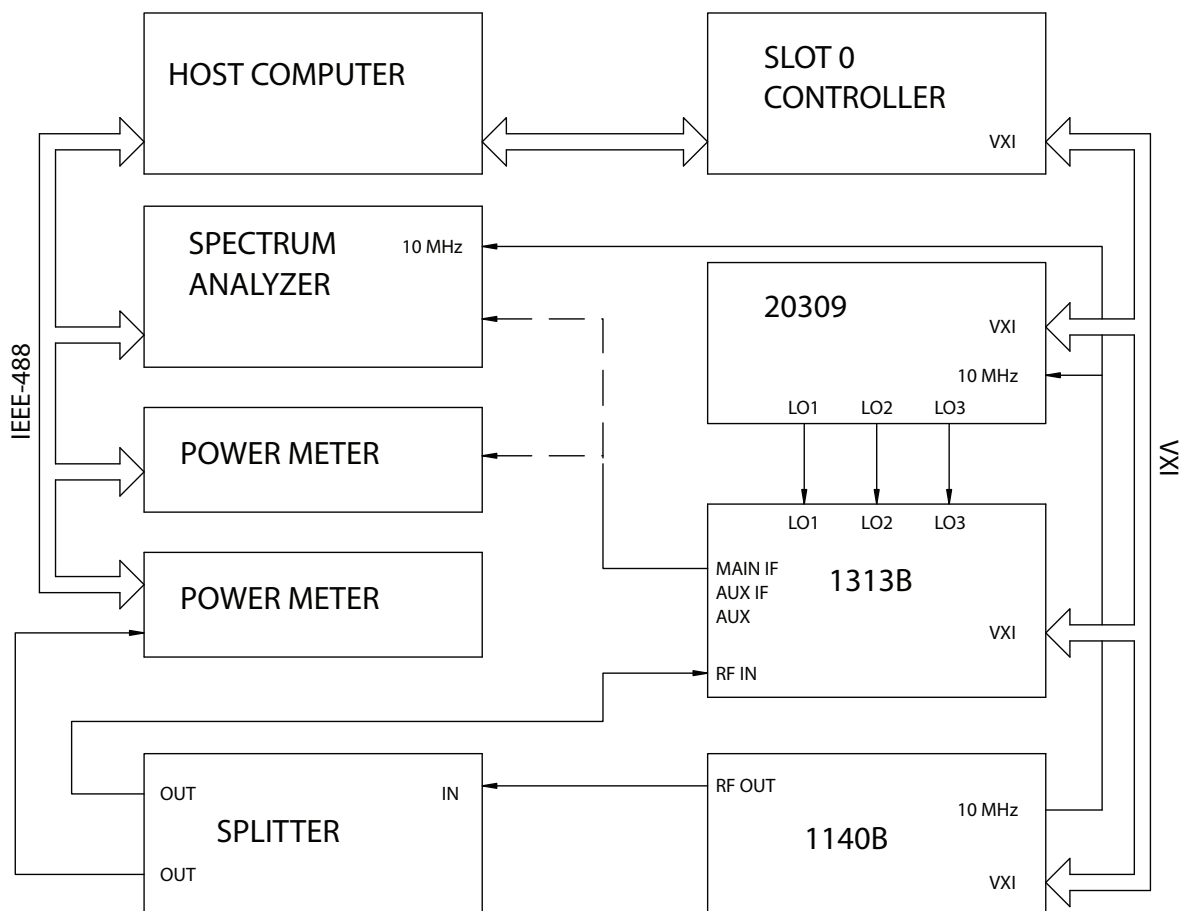

Figure 7-1. IF Gain Calibration Setup
1. Connect the equipment as shown in Figure 7-1 with a Power Meter connected to the 1313B IF1 output. The Spectrum Analyzer is not required in this procedure, but it may be desirable to observe and verify the integrity of the output signal.
1. Connect the equipment as shown in Figure 7-1 (page 7-2) with a Spectrum Analyzer connected to the 1313B IF1 output.
1. Connect the equipment as shown in Figure 7-1 (page 7-2) with a Spectrum Analyzer (HP 8566B) connected to the 1313B IF1 output.